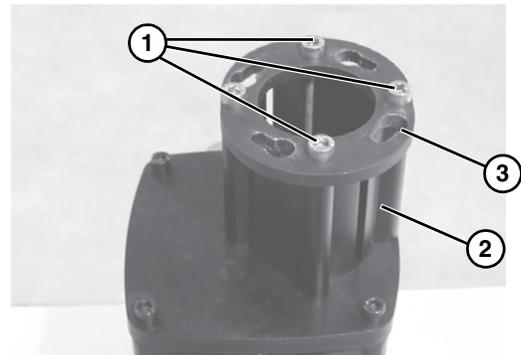

Figure 9
5. Remove four (4) screws (**Figure 9, item 1**) and detach gearmotor coupling guard (**Figure 9, item 2**) and mounting ring (**Figure 9, item 3**).
10. Install gearmotor coupling guard (**Figure 9, item 2**) and mounting ring (**Figure 9, item 3**) with four (4) screws (**Figure 9, item 1**) and tighten to 110 in-lbs (12 N-m).